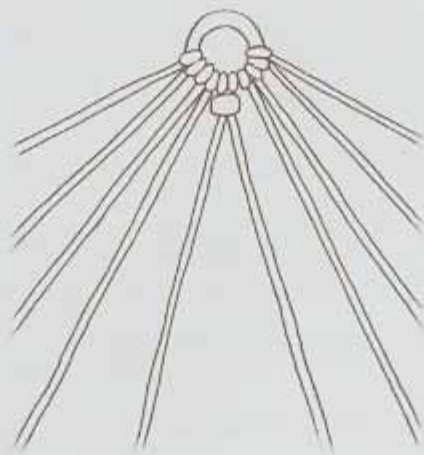

Fig. 1
1. Using **MHs** (Mounting Hitches), attach 5 cords to the jump ring. If you are making Variation 2, the sequence is 1 of Color A, 1 of Color B, 1 of Color C, 1 of Color B and 1 of Color A. Slide a knot over the jump ring opening to hide it (see Figure 1).